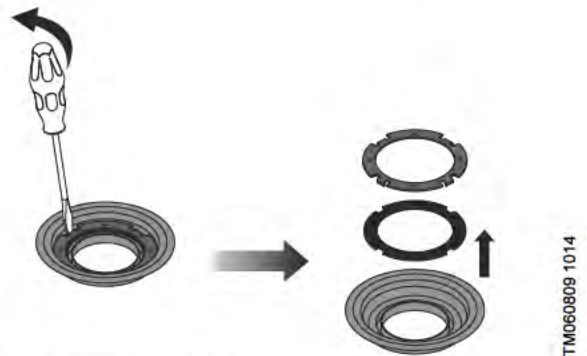

Fig. 9 Removing neck ring
2. Push neck ring retainer (pos. 65) up and free from cup (pos. 46) using a screwdriver, and remove neck ring (pos. 45). See fig. 9.